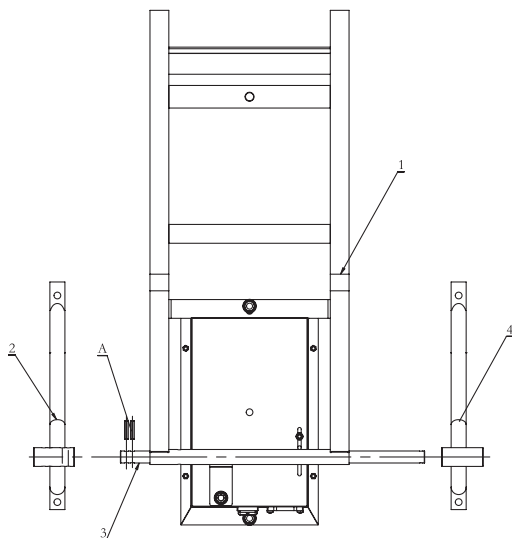

Fig.1
1. Assemble the left wheel bracket (2) and right wheel bracket (4) on the two sides of the wheel axle, and use 2 pcs elastic cylindrical pin 5x26 (A) to fix the left wheel bracket(2) onto the wheel axle(3). See Figure 1.